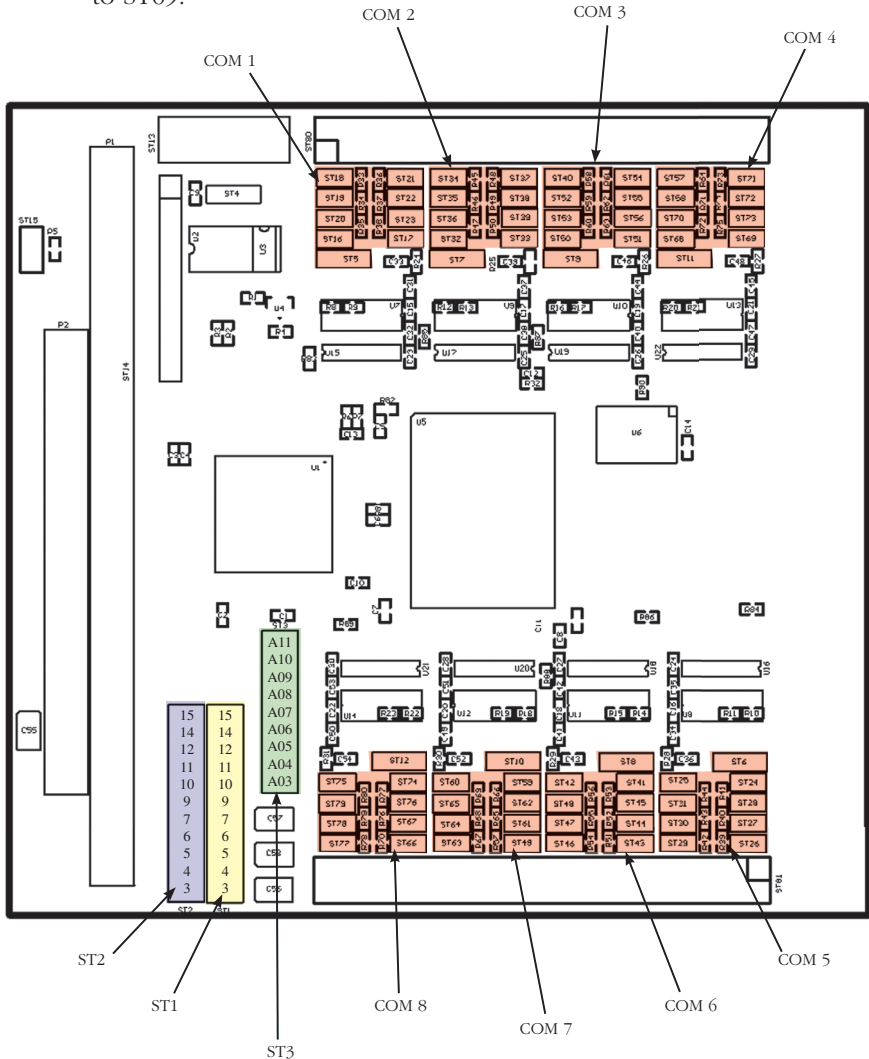

Figure 1: Jumper positions:
**Figure 1** shows the jumper positions. They are referred to as ST1 to ST69.
These settings are made for the **8 ports individually** with 8 jumper groups that are always arranged the same. The assignment of the jumper groups to the ports is shown in **Figure 1**. **Figure 5a** shows the functions of the jumpers. **DTR/RTS** is selected with the triple jumper below. In the example in **Figure 5b** RTS is set. The **termination** is set for In (above the triple jumper) and Out using the three upper jumpers (pull-up, pull-down, differential, none settings). No jumper is set in the example in **Figure 5b** and therefore no termination. RS422 (open) or RS485 (inserted) is selected directly with the jumpers above the triple jumper.